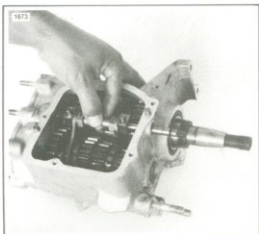

Figure 7-25. Fork Assembly in Transmission
5. See Figure 7-25. Remove the lock ring from the end of the fork shaft. Tap the shaft out of the sprocket side of the transmission.
3. See Figure 7-25. Place the fork assemblies into the transmission as shown, install the narrow fork on the mainshaft shifter clutch. Install the shaft and lock ring.